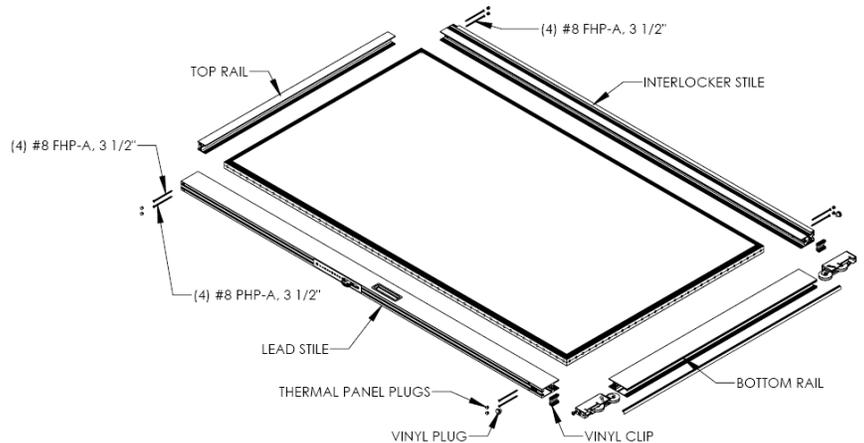

**Figure 2:**
1. Adjust the roller assemblies (2 required per "X" panel) to the full up right position using the adjustment screw (Figure 2).